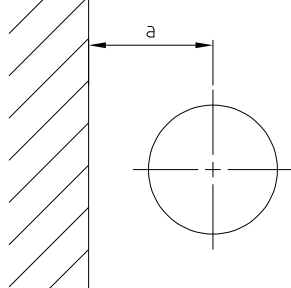

Fig. 7. Minimal mounting distances of surge arresters.
The installation method and tightening torques of screw connections are shown in the drawings "Correct installation of a surge arrester with a line terminal" and "Correct installation of a surge arrester with a disconnector". Figure No. 5 shows an example of installation of a surge arrester equipped with a mounting base and a line terminal. When installing the line terminal, first tighten the press screw item 6 (using a 6 mm Allen key) to a torque of 25 Nm, and then install elements items 2, 3, 5, 9. The tightening torque of the nuts item 5 (19 mm key size) of the line terminal is 50 Nm. Start the installation of the mounting base by screwing the M12 press screw item 7 into the lower electrode of the arrester (using a 6 mm Allen key) to a torque of 30 Nm, and then tighten the mounting base using the M12x25 screw, item 8 (use a 19 mm socket wrench) - tightening torque 50 Nm, previously using washers, items 9 and 10. If the surge arrester is additionally equipped with an insulating base, 3 insulators should be mounted to the mounting base using 3 pcs. M12x20 screws and washers (use a 19 mm socket wrench) - tightening torque 50 Nm. Figure no. 6 shows an example of mounting a surge arrester equipped with a disconnector. First, screw the M12 pressure screw into the upper hole with a torque of 25 Nm, item 8. Mount items 5; 6; 10; 12. Tighten the nut item 12 in this assembly with a torque of 50 Nm. (Carry out the nut assembly operation after connecting the wire from the surge arrester to the protective object). Then screw the screw item 7 into the lower hole of the electrode with a torque of 25 Nm. Then mount the surge arrester on the insulating bracket item 2, then slide the washer item 14 and 11 on to the M12 screw and tighten the nut item 13 with a torque of 30 Nm. Screw the disconnector item 4 to the protruding M12 screw with a torque of 20 Nm. In the lower part of the disconnector there is a screw with an M12 thread, on this screw we attach the washer item 15, the flexible cable with an eyelet connecting the disconnector to the return path structure, the washer item 15 and 10 and tighten it with the nut item 12 with a torque of 20 Nm. On the device assembled in this way, after mounting the mounting base item 3 on the pole structure (for example using the MTMN-G402 mounting tape), it is possible to finally mount the surge arrester with the insulating bracket on the base item 3. To mount the insulating bracket item 2 on the pole item 3, the M12 screw item 9 with the washer item 15; 10 and the nut item 12 were used - tighten to a torque of 30 Nm. For the arrester with the disconnector mounted in this way, connect the flexible cable connecting the disconnector to the return path structure. Table 2 shows the recommended minimum distances that should be maintained when mounting the arresters (see Fig. 7). These are the minimum distances between the axes of the surge arresters and between the nearest return path structure.